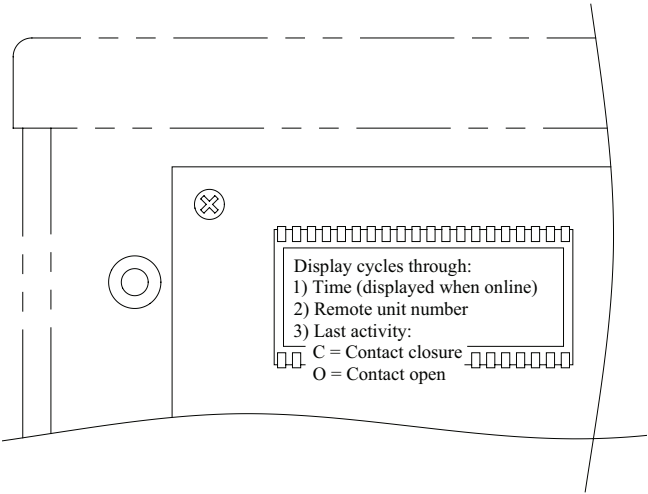

Figure 9: Door Alarm Display Information
- 4. The display in the upper left-hand corner of the board shows the current time and remote unit number. The display will also show the last door switch activity for any door switches attached to the board. For example, it will display O-01 showing that channel 1 was opened or C-08 to show that channel 8 was closed. See Figure 9.